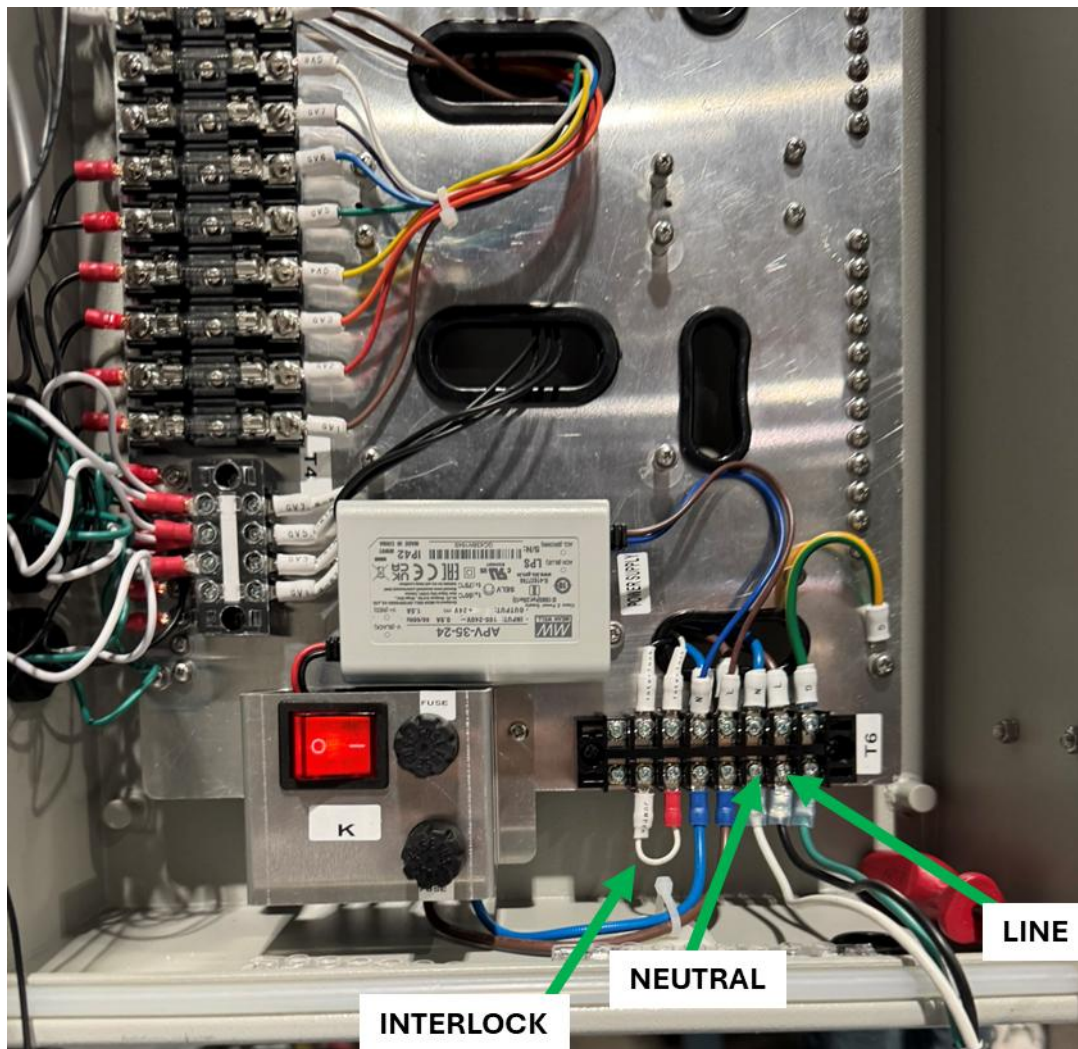

Figure 12. Location of Power Terminal and Toggle Switch
17. Connect the line voltage wires to the terminals. See Figure 12.
18. Connect the remote relay/interlock to the terminals. See Figure 12.